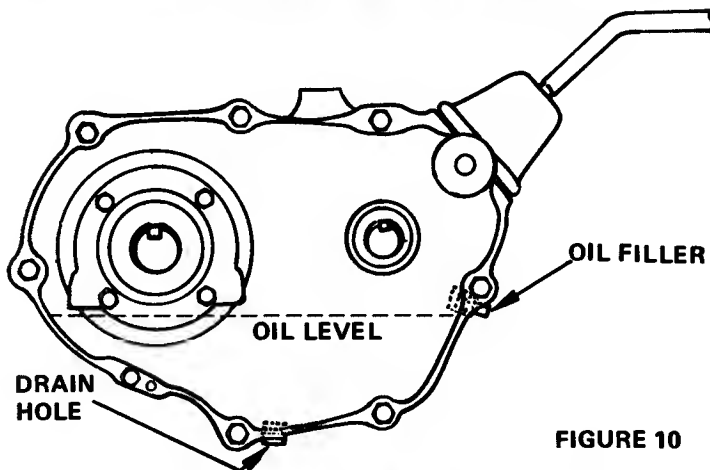

FIGURE 10
3. Wipe dirt from around the oil level filler plugs. See Figure 10.
4. Remove filler plug. Oil level should level with the filler plug hole, see Figure 10.